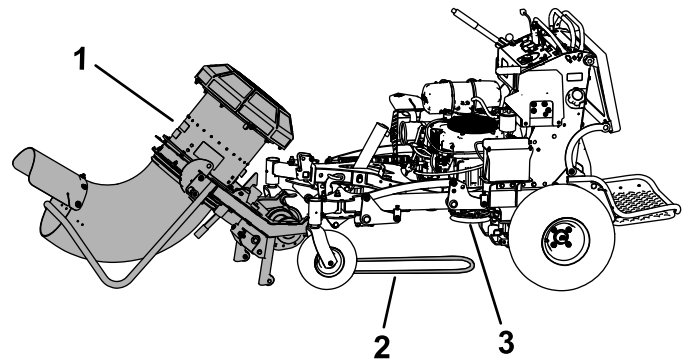

Figure 15
12. Move the blower in front of the machine and lay the belt underneath the machine so that it is lined up with the clutch (Figure 15).